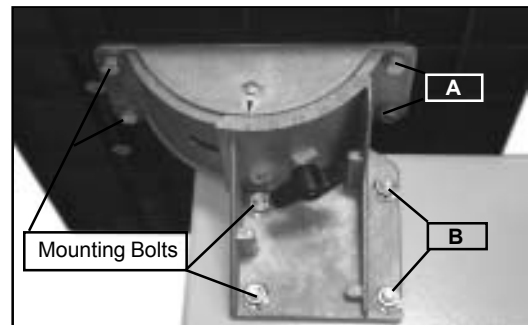

Fig.4
- Loosen the four bolts mounting the table to the upper trunnion. (A-Fig. 4)
- If the adjustment of "b" is not enough to center the table, loosen the bolts holding the lower table trunnion and move the table sideways to place the table in the center. (B-Fig. 4)